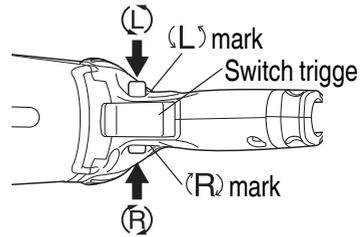

Fig. 6
7. Check the rotational direction (**Fig. 6**)